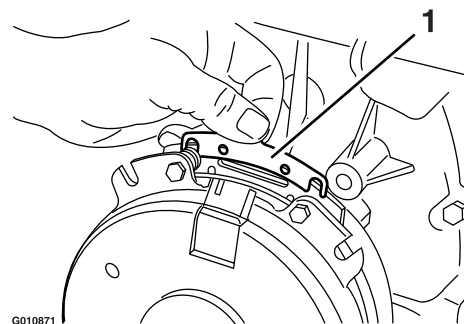

Figure 71
- B. Using needle-nose pliers, or by hand, hold the tab and remove the shim (Figure 71).
Remove any buildup of grass, dirt, or other debris from the engine screen. This helps ensure adequate cooling and correct engine speed and reduces the possibility of overheating and mechanical damage to the engine (Figure 71).